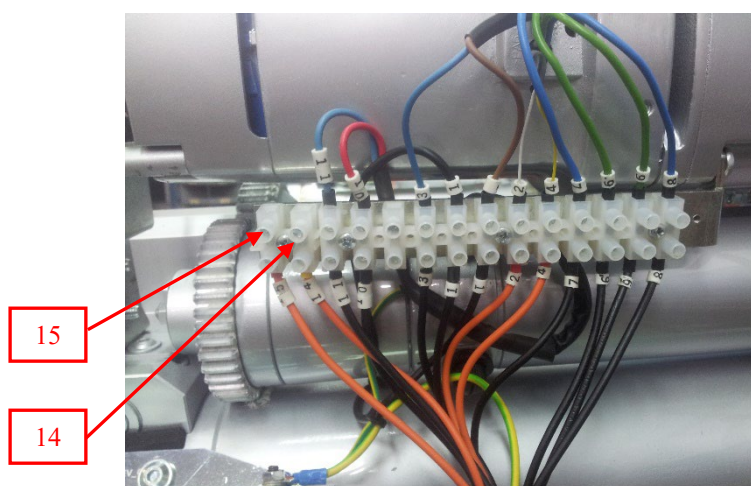

Figure 2.5
2.1.10 Proceed to disconnect the cables marked with numbers 14–15 on the terminal board, (see figure 2.5).